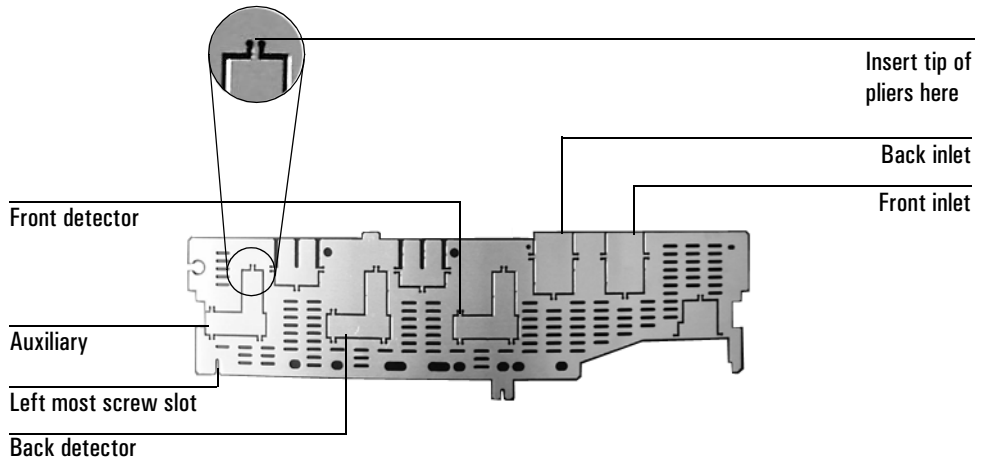

Figure 10 Top rear panel cutouts
- Using a pair of needle-nosed pliers, remove the top rear panel cutout for Auxiliary. Also remove any cutouts needed to access other manifolds or accessories installed in the GC. See Figure 10.